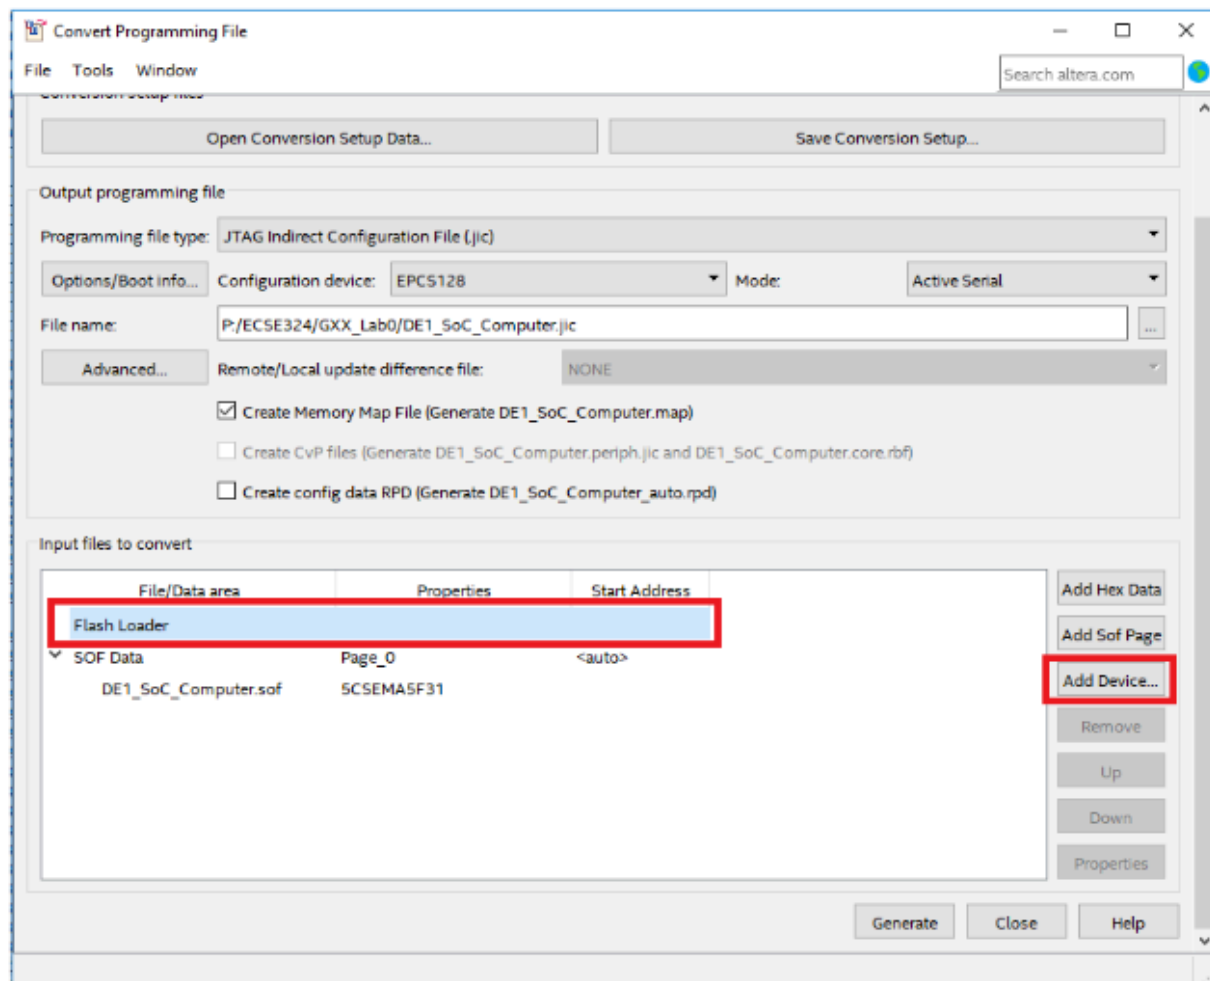

Figure 5: Convert SOF to JIC - Step 5
5. Next, under “Input files to convert” click on “Flash Loader”, and then click “Add Device” as shown in Fig. 5.